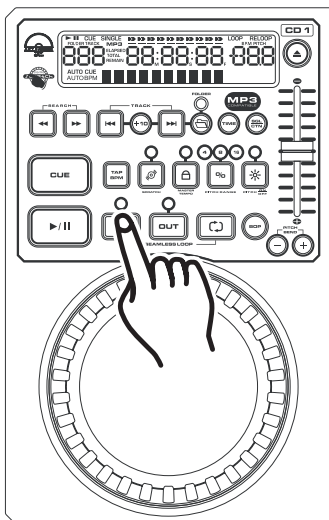

Figure 13
A cue point is the exact point playback will begin when the *PLAY/PAUSE button (15)* is pressed. You may set your cue points anywhere on a disc or in a track. There are two (2) ways to set and create a CUE point as detailed in figures 13 and 14.